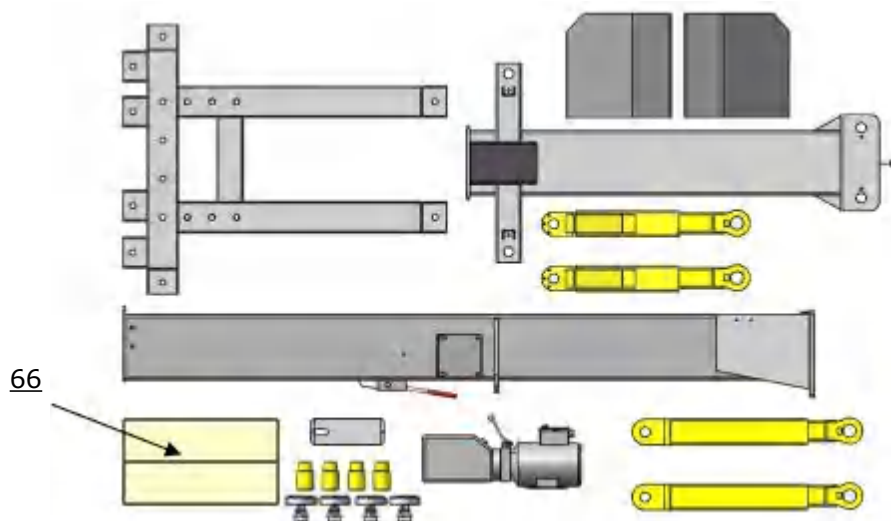

Fig.8
3. Move aside all the parts and check according to the shipment parts list **(See Fig.8)**